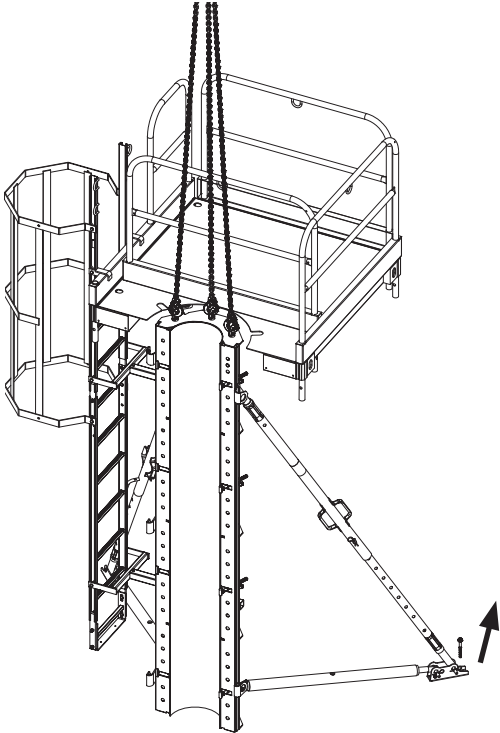

Fig. A5.02
5. Attach the crane lifting gear to the standing column element and dismantle the Base Plate of the Push-Pull Props. (Fig. A5.02)